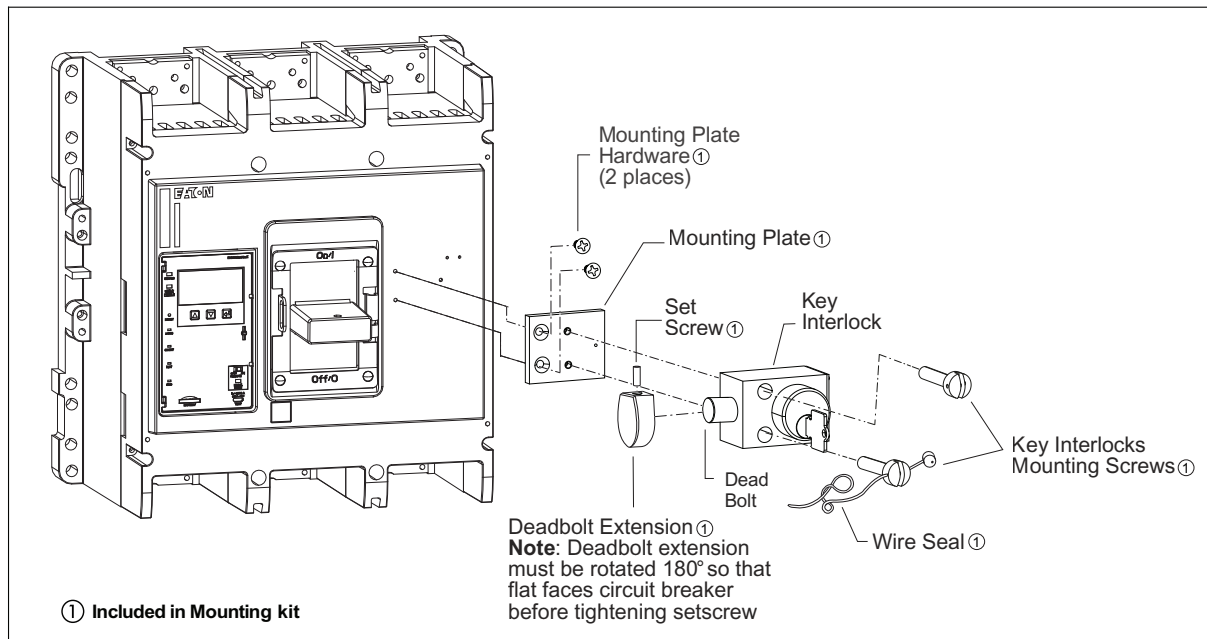

Fig. 2-2 Key Interlock Installation
- 2-2. Position mounting plate on circuit breaker cover. Align mounting holes (see Fig. 2-2). Align pin in plate with corresponding hole in cover.
- 2-4. Assemble deadbolt extension to deadbolt with flat area towards circuit breaker. Secure with setscrew provided. (Fig. 2-2).
- 2-5. Position key interlock (deadbolt in withdrawn position) on base mounting plate. Align mounting holes. (Fig. 2-2).